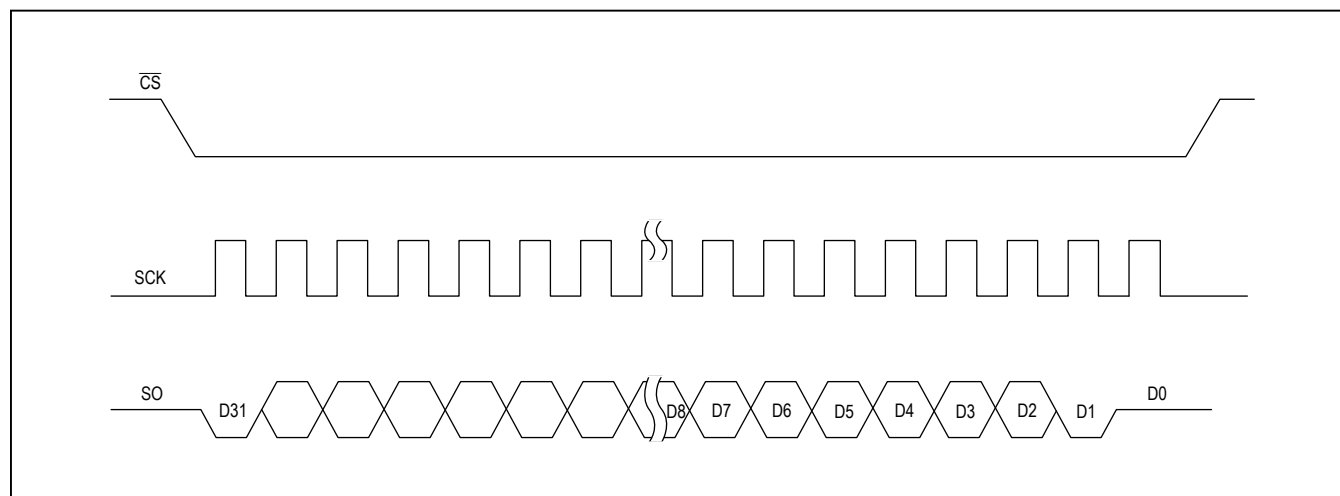

Figure 1. Serial-Interface Protocol
**Serial-Interface Timing Characteristics**(See Figure 1 and Figure 2.)
Figure 1 and Figure 2 show the serial-interface timing and order. Table 2 and Table 3 show the SO output bit weights and functions.